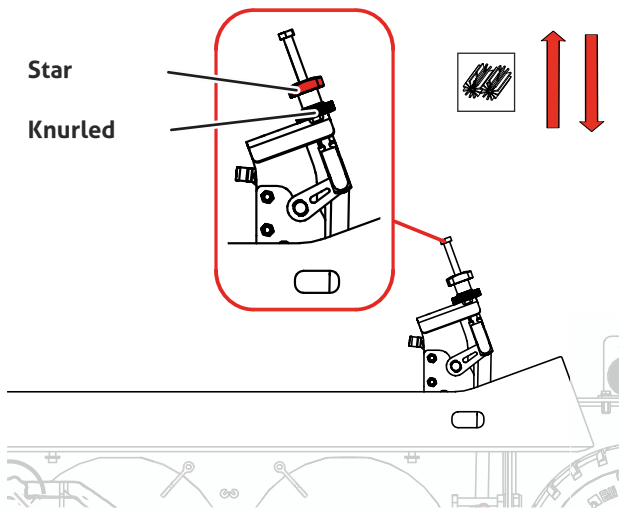

Fig. 56
- Remove the star handle (Fig. 56)